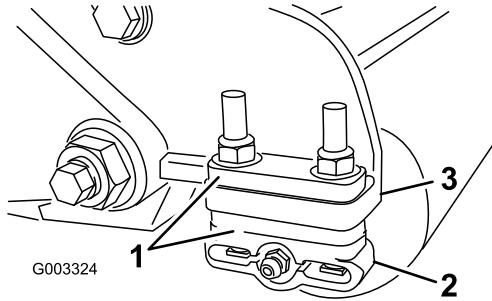

Figure 11
1. Adjust the rear roller brackets (Figure 11) to the desired height-of-cut range by positioning the required amount of spacers below the side plate mounting flange (Figure 11) per the height-of-cut chart; refer to Height-of-Cut Chart (page 12).